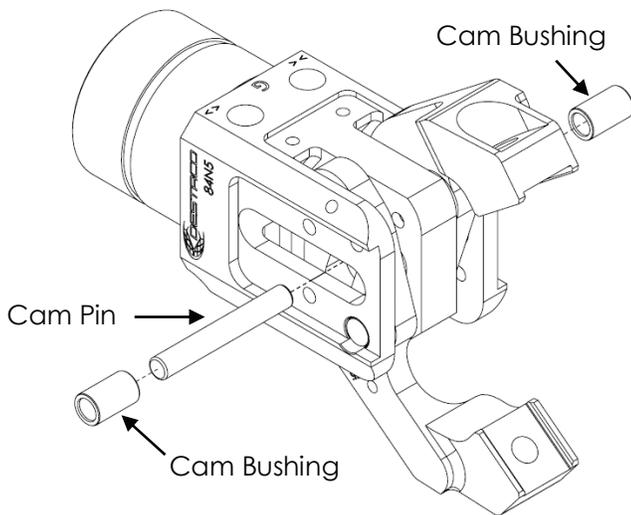
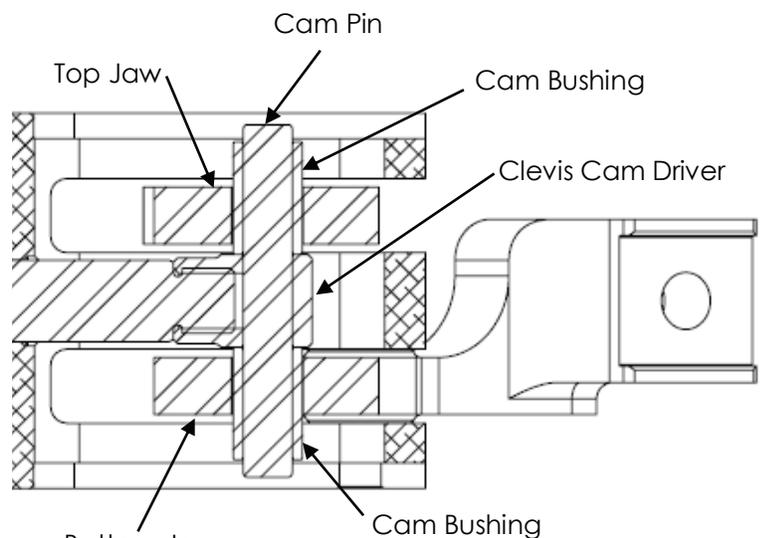

Fig.16
Fig.17
11. Insert the cam pin thru the two jaws cam slot and thru the hole in the clevis cam driver. After cam pin insertion, insert the cam bushing on each cam pin end until they touch the clevis cam driver. The bushings must seat properly and move freely within the jaw cam slot and during operation (see Fig.16 & Fig.17).